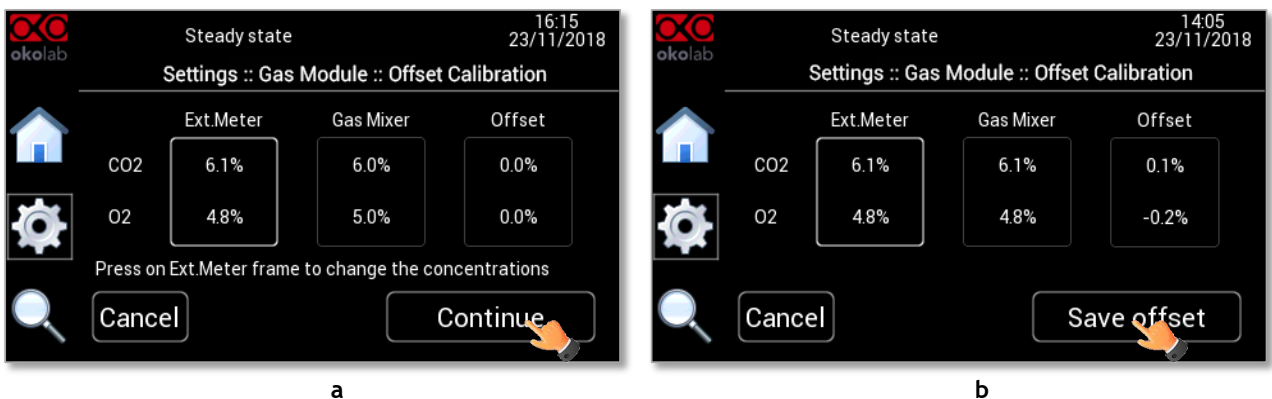

Figure 44. Manual Calibration Correction (a - b).
Note ► The Tri-Gas-Mixer display returns to the previous screen. It displays on the left (External Meter tab) the CO₂ and O₂ compositions read by the external gas meter, as just entered. The values in Gas Mixer tab are the values read by Tri-Gas-Mixer (see Figure 44).
- Press on Continue button (see Figure 44 a) to make a calibration using the input values read by LEO as references.
Note ► By pressing Continue, the system will perform a calibration using the External Meter as a reference. The offset resulting from the calibration will be displayed in the Offset tab (see Figure 44 b).
- Press on Save offset button to save the calibration (see Figure 44 b).